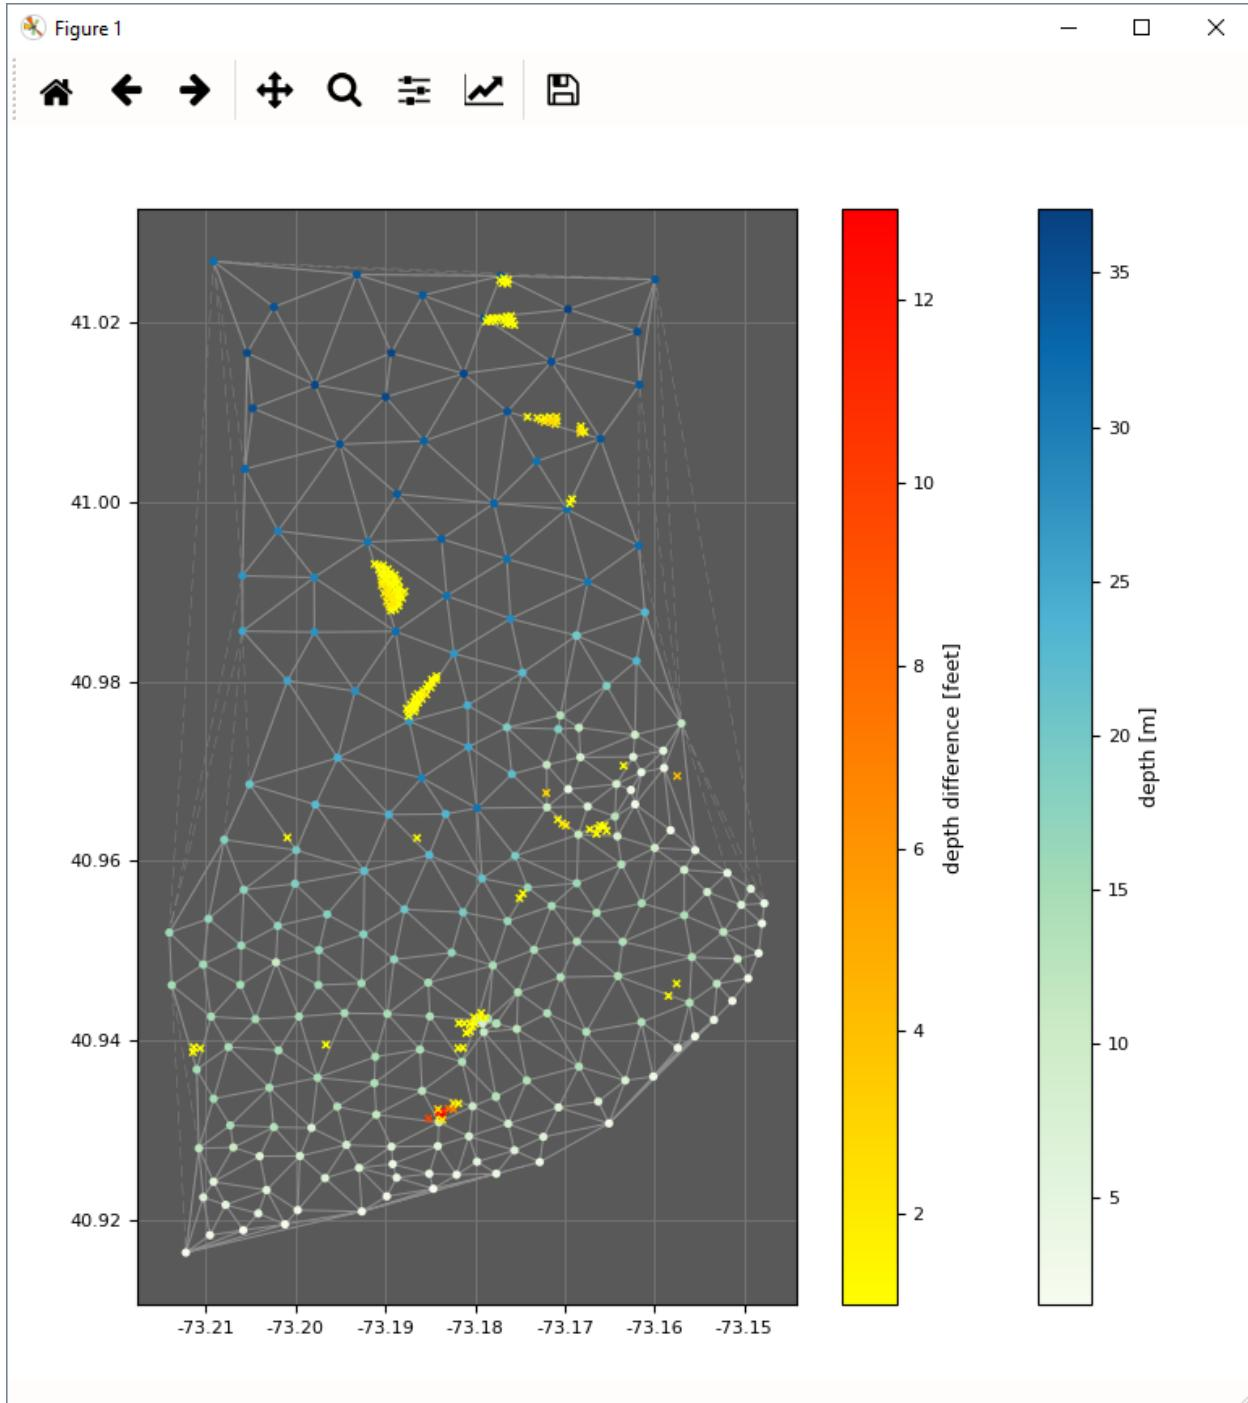

Fig. 2.70: Triangle rule's output display.
- After executing, the results are also shown graphically (Fig. 2.70). Chart-scale soundings are colored by depth, and flagged survey-scale soundings that may not be adequately represented are colored by their discrepancy.